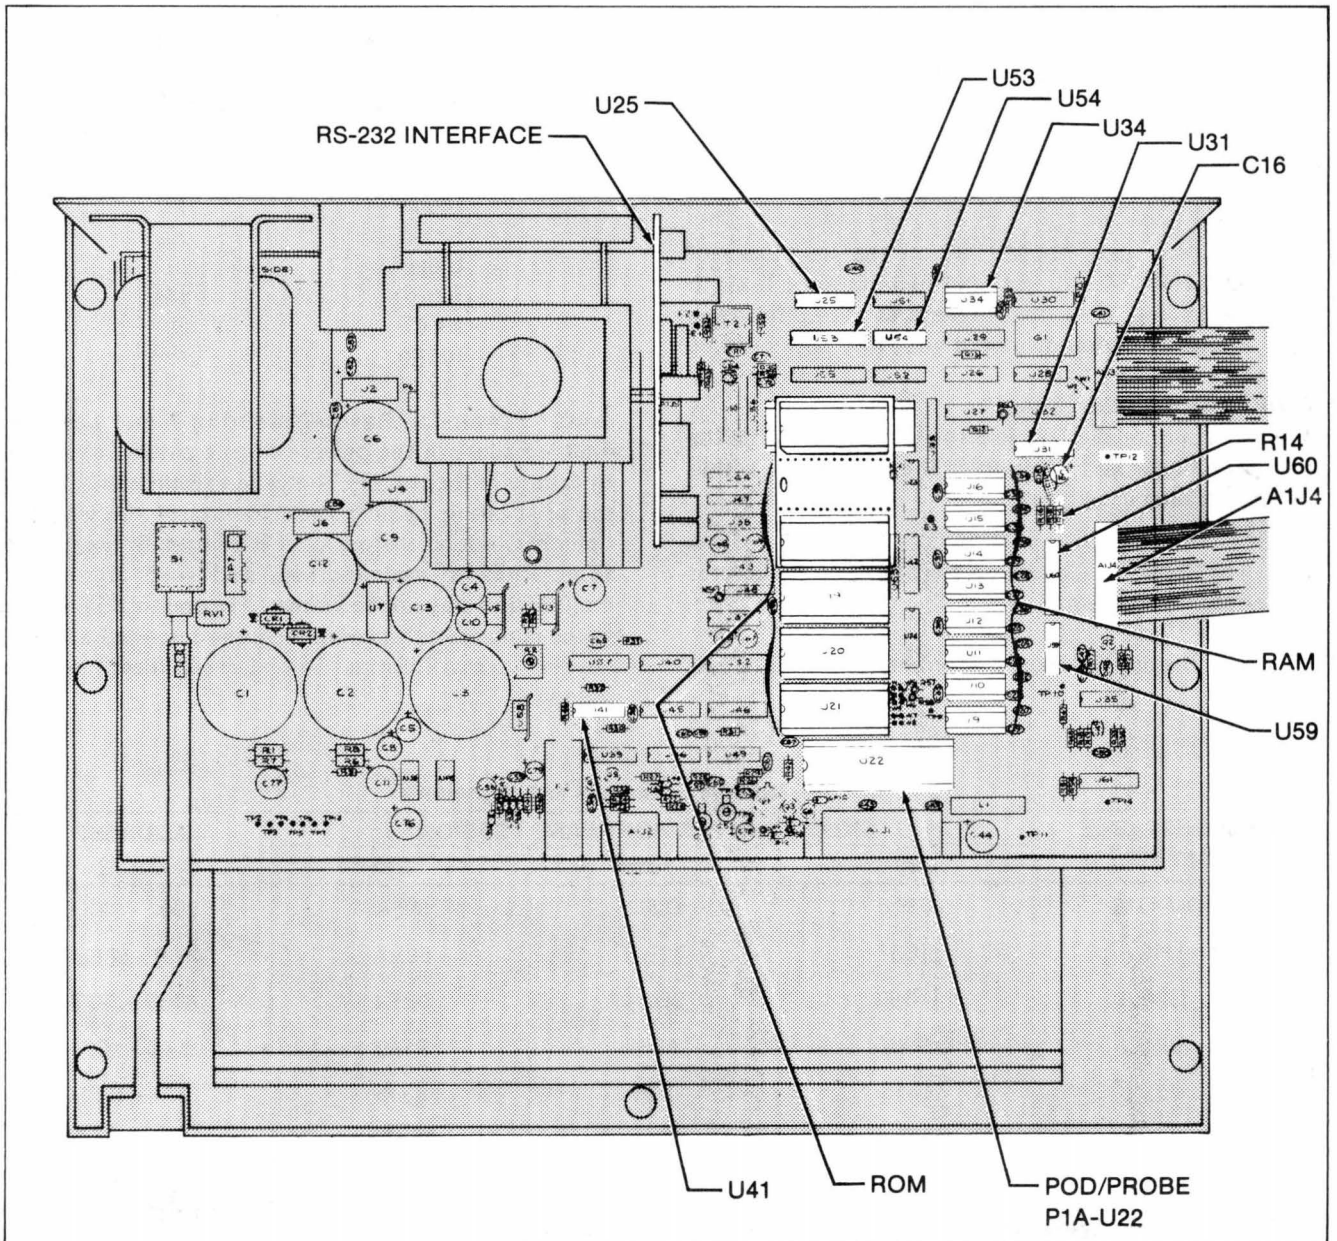

Figure 4-7. Main Assembly Components
1. With ac power off, and with reference to Figure 4-7, remove the ROM piggy-back bracket (not illustrated) and PCB assembly and the Z80 microprocessor (U8) from the Main Assembly.
2. Using the tester 9010A probe in the sync-free-run pulse-low mode, momentarily connect the probe tip to U31-4 of the UUT. (Refer to Figure 4-7 for the location of U31.) The UUT should beep and display the power-up message FLUKE 9000 POWER-UP OK VER-xx (where xx indicates the current software version number) each time the probe is momentarily connected to U31.
4-52. Failure of the pod/probe PIA typically causes communication problems with the pod and/or the probe since all commands and data move through the PIA. Using the following procedure, verify proper operation of the pod/probe PIA. (Figure 4-7 shows the location of the pod/probe PIA U22, U31, U34, and U25.)
1. Turn off the UUT and remove the Display/Keyboard Assembly connector A1J4 (shown in Figure 4-7) to disable the beeper. Using a clip lead, disable the watchdog timer (U31) by jumpering R14 (the end adjacent to C16) to TP12 (gnd). Turn on the tester 9010A and then the UUT.